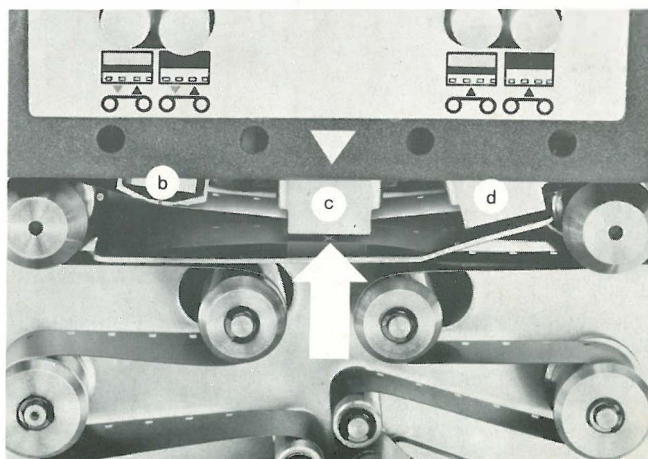

Fig. 5
- To change the position of the magnetic film in relation to the picture film: The starting mark on the magnetic film must be right under the record/playback head **c** (for exceptions refer to operating modes Q, R and S). If need be, the position of the start-mark can be corrected after threading: Push in the knurled ring **i** and turn it to the left or to the right until the starting mark is right under the magnetic head (the starting mark is visible from above in a mirror, see fig. 5). The starting position of the picture film has not changed when applying this procedure on the magnetic film side!